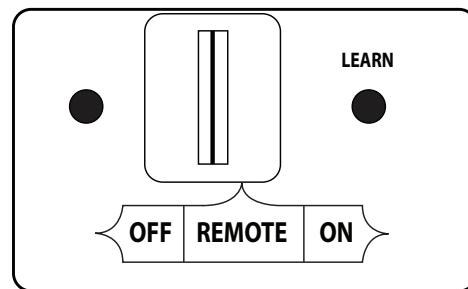

Fig. 29-2 Remote receiver (OFF for Manual Light)
- Ensure the pilot is burning. Then locate the 3-position switch on the remote receiver (see Fig. 29-2), and slide the switch to the **OFF** position.